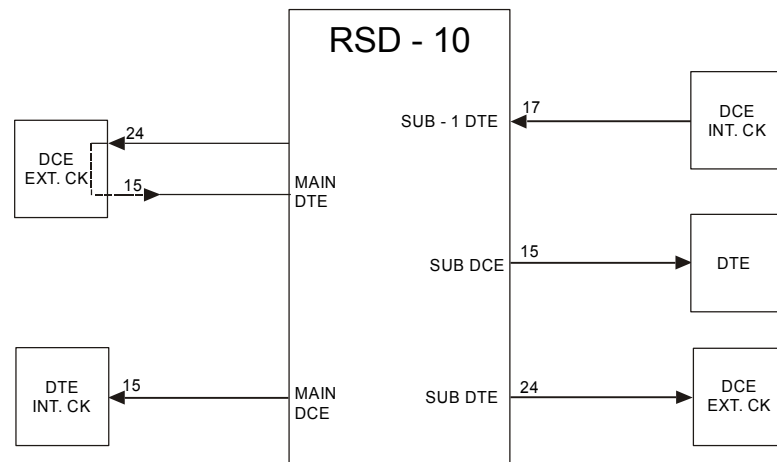

Figure 2-4. Synchronization on Subchannel 1
- Synchronizing on subchannel 1 modem timing signals (see *Figure 2-4*).